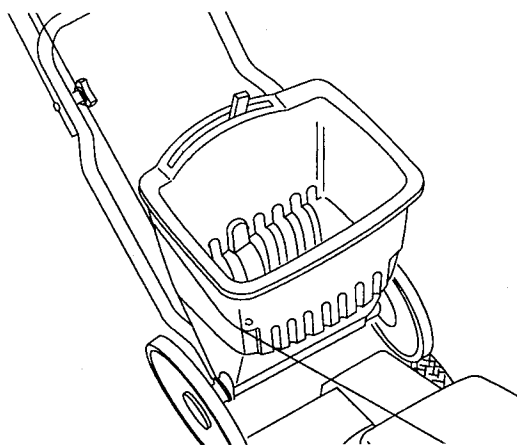

Figure 91
1. Place the spreader on your mower (Fig. 91). The wheels of the spreader must rest on the wheels of the mower.